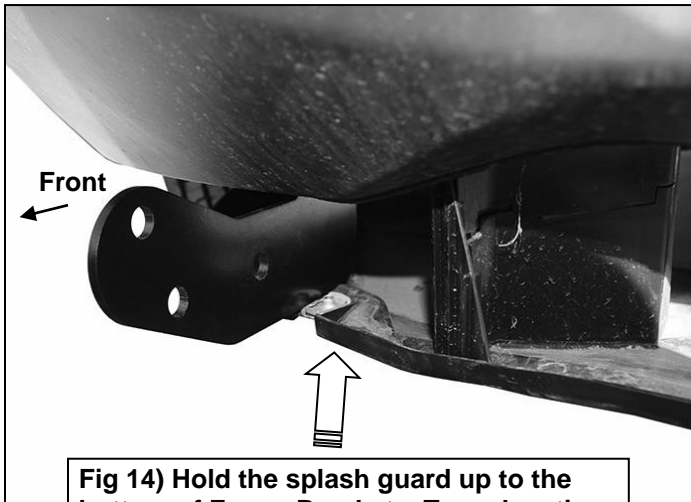

Fig 14) Hold the splash guard up to the
11. Hold the plastic splash guard up to the bottom of the Mounting Brackets, **(Figure 14)**. Trace the location of the Brackets onto the inside of the plastic cover. Use a sharp knife or hacksaw blade to cut out the sections from the cover, **(Figure 15)**. Reinstall the splash guard using the factory hardware.
12. Reinstall the license plate bracket over the Support Bracket. On models with bracket held on with rivets, use the included (3) ST6x20mm Screws to reattach the license plate bracket.